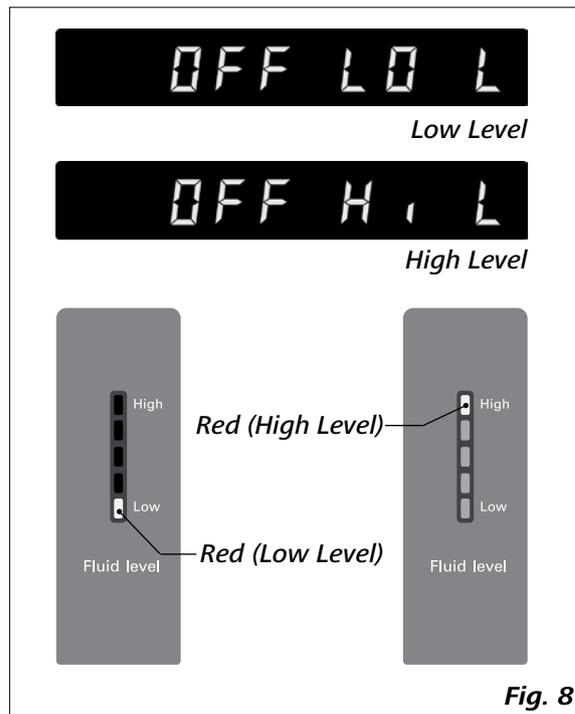

Fig. 8
- The low level warning message appear on the display. Meanwhile, the bottom LED segment of the lights up in red color to indicate the low fluid level (see Fig. 8).
**Note:** Pay attention to the fluid level information on the display and fluid level indicator (see Fig. 8).